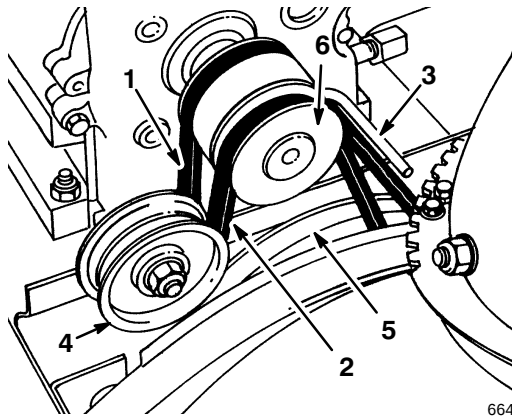

Figure 22
4. Remove the auger/impeller drive belt from the engine pulley and the large auger/impeller pulley (Fig. 22).
9. Loosen the belt guide (Fig. 22).
10. Remove the traction drive belt from the engine pulley and the large traction pulley (Fig. 22).
12. Loop the belt over the engine pulley, ensuring that the belt is on the inside of the belt guide (Fig. 22).
17. Install the auger/impeller drive belt around the large auger/impeller pulley and engine pulley, ensuring that the belt is on the inside of the idler pulley and belt guide (Fig. 22).
2. Screw (2)
3. Loosen the belt guide (Fig. 22).
5. Install a new belt around the large auger/impeller pulley (Fig. 22).
6. Loop the belt over the engine pulley, ensuring that the belt is on the inside of the idler pulley and the belt guide (Fig. 22).